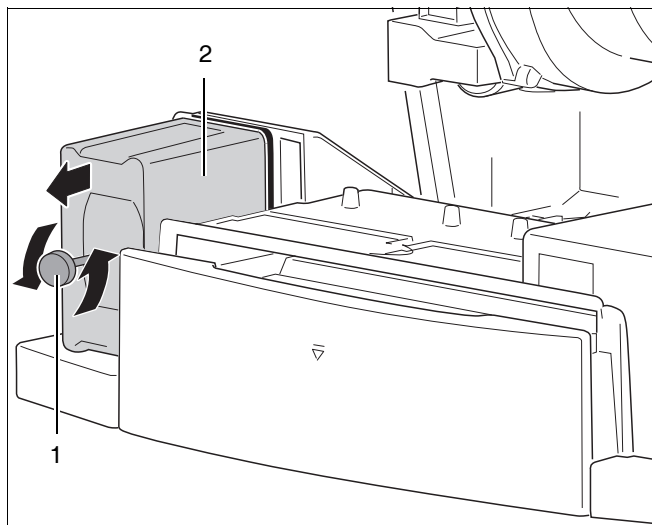

fig. 4 Dismantling the UBA 3
- Loosen the fastening screw of the UBA 3 by turning it counter-clockwise (see fig. 4, pos. 1).
- Remove the UBA 3 once the fastening screw is fully loosened by pulling it forward carefully as indicated by the arrow (see fig. 4, pos. 2).